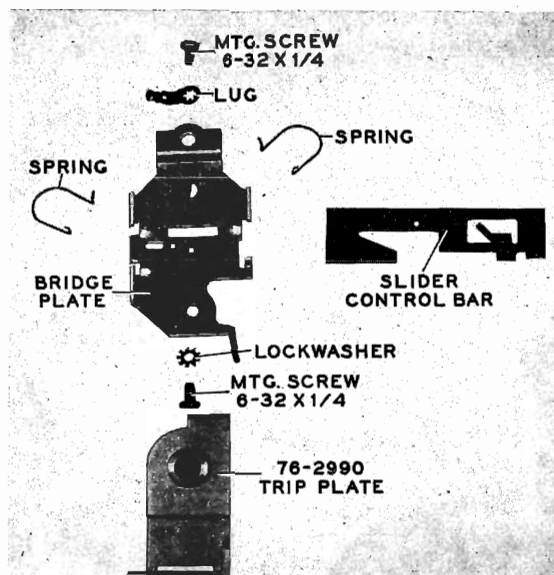

Figure 23—BRIDGE ASSEMBLY TP-4180
- b. Remove link rod, 56-4589FA3, from slider control bar. Complete assembly of bridge is shown in figure 23.